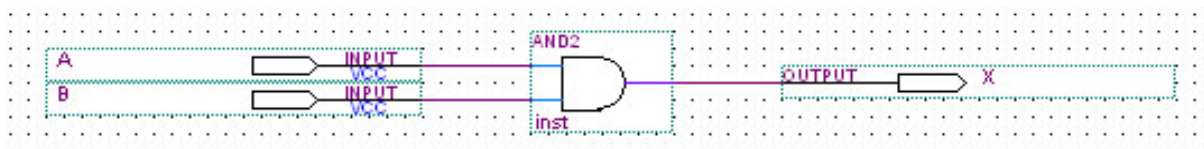

Figure 6-12
19. Add lines from each gate terminal to the respective input or output terminal. To make these lines, position the mouse pointer on a gate terminal. When the mouse pointer turns into a cross, click and drag the mouse so that it barely touches the input or output connector lead. Do *not* drag and release the wire inside a component. The circuit should appear as shown in Figure 6-12.